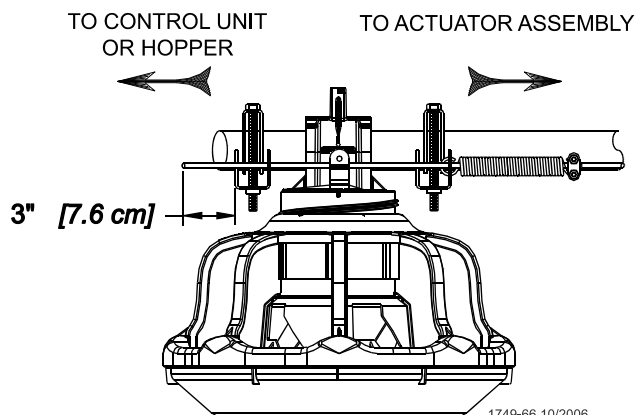

Figure 48. Trim excess actuator wire at control/hopper
6. With the brood in the open position. Go to the control unit or hopper end to trim the extra actuator wire. Leave 3 inches [7.6 cm] of excess wire past the spring bracket, see figure 48.